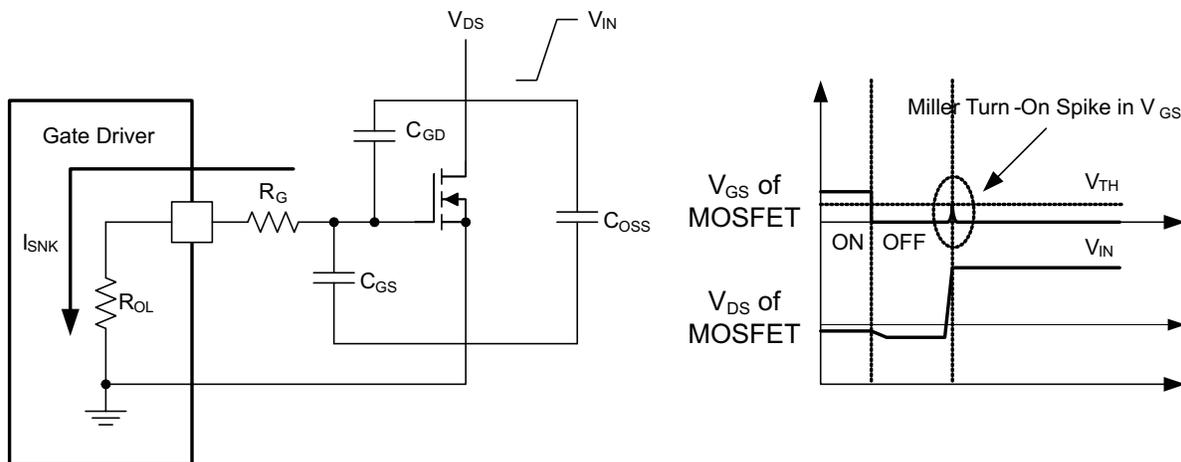

Figure 40. Low Pull-Down Impedance in UCC2753x (Output Stage Mitigates Miller Turn-On Effect)
An example of a situation where Miller turnon is a concern is synchronous rectification (SR). In SR application, the  $dV/dt$  occurs on MOSFET drain when the MOSFET is already held in OFF state by the gate driver. The current charging the  $C_{GD}$  Miller capacitance during this high  $dV/dt$  is shunted by the pull-down stage of the driver. If the pull-down impedance is not low enough then a voltage spike can result in the  $V_{GS}$  of the MOSFET, which can result in spurious turnon. This phenomenon is illustrated in Figure 40.